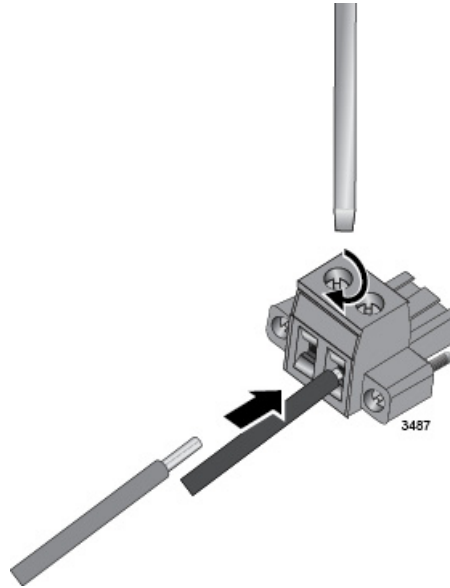

Figure 43. Inserting the -48/-60VDC Wire
8. Insert the red -48/-60VDC wire into the left connector and secure it by tightening the captive screw with a flat-head screwdriver. Allied Telesis recommends tightening the screw to 5 in-lbs. Refer to Figure 43.